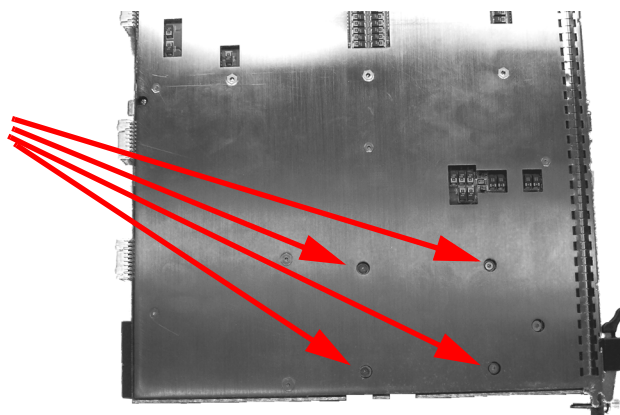

Figure 39 Removing the SSD Mounting Screws
- 4 Carefully, turn the controller over. Remove the four SSD screws as indicated in Figure 39. Be very careful as removing these screws releases the SSD.